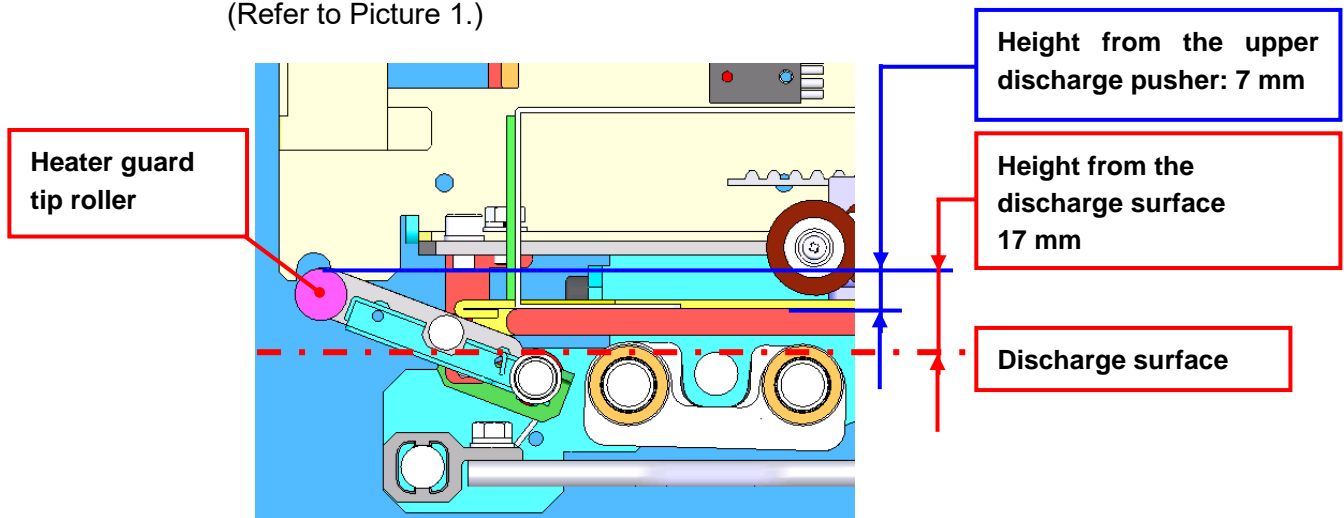

Figure 1
- ① Manually pull the discharge pusher until it becomes the condition as shown in Figure 1.
- ② With the condition shown in Figure1, perform solenoid adjustment satisfying the following conditions.
- Turn ON/OFF the emergency stop switch, and the heater guard operates with the condition as shown in Figure 1.
- With the emergency stop switch OFF, the heater guard must not be floated with the condition shown in Figure 1.